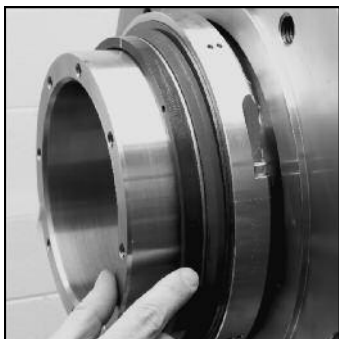

Figure 13
4. Apply a thin, even film of lubricant to the O-Ring contact surface of the primary ring with the provided lubricant. Figure 13.